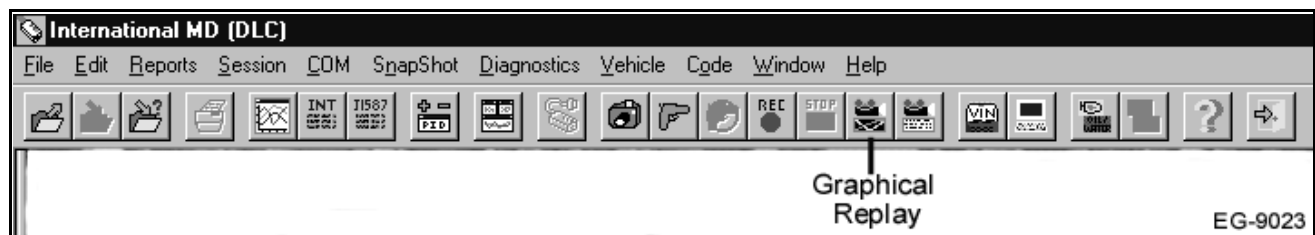

Figure 179
- Verify that the **Trigger Armed** message changes to **Recording** as soon as the engine rpm is increased by the test (See Figure 179, page 373). You will also see the message **Diagnostic Running** message in the status bar.